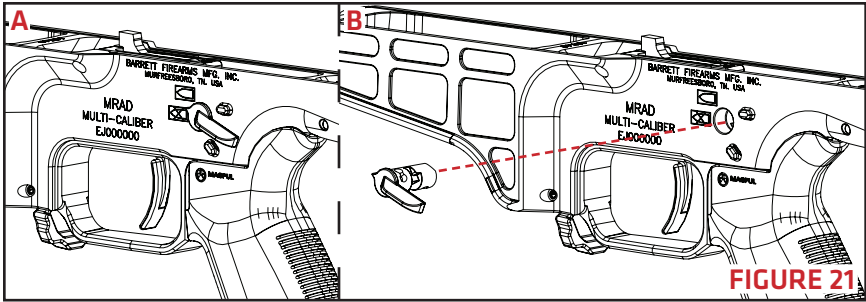

FIGURE 21
1. Rotate the safety lever half way between the stops on the receiver (FIGURE 21-A).
2. From the opposite side of the safety lever, push the safety lever while slightly rotating the safety and remove it from the receiver (FIGURE 21-B).